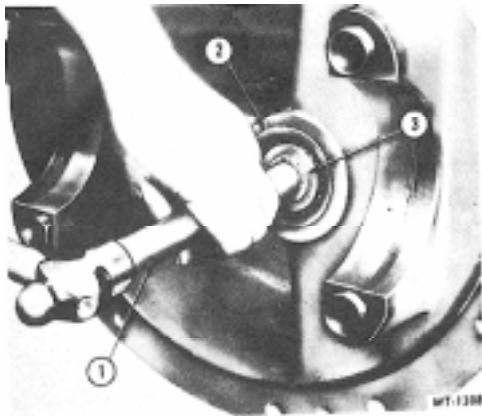

Fig. 20. Starting Pinion And Cage From Carrier
- Strike against rear of pinion shaft with a brass drift and hammer to start pinion and cage out of carrier Fig. 20).